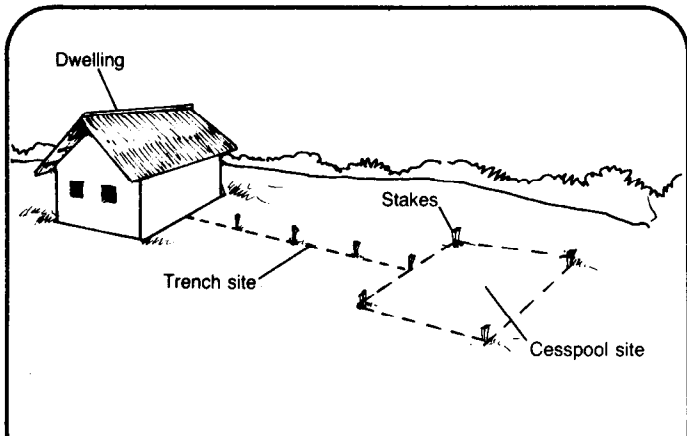

Figure 3. Locating Cesspool Site
2. Determine the correct location of the cesspool using the location map and a measuring tape. Clear the area of any vegetation that may hinder construction. Lay out the dimensions of the cesspool on the ground and mark its location with stakes or pointed sticks. Mark the trench line for the pipe from the dwelling to the site for the cesspool as shown in Figure 3.